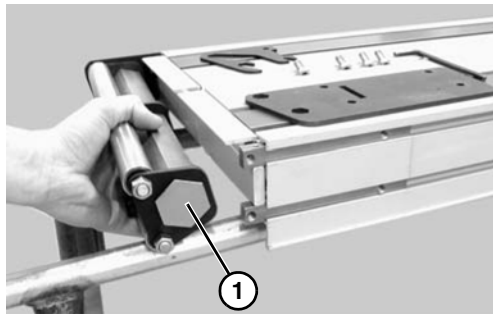

Figure 49
- Slide the transfer tail pulley assembly (**Figure 49, item 1**) out of the headplate on the opposite side.